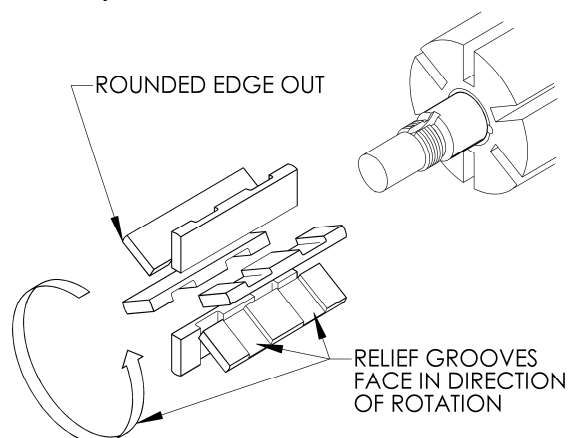
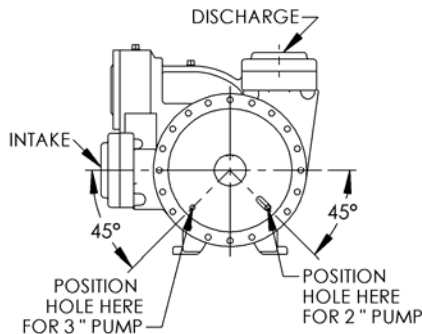

Figure 8 – Vane Installation
Figure 9 - Disc Relief Hole Location
3. Turn the shaft by hand until a vane (14) comes to the top (12 o'clock) position of the rotor. Remove the vane.
4. Install a new vane (14), ensuring that the rounded edge is UP, and the relief grooves are facing towards the direction of rotation. See Figure 8.
1. On 2-inch pump models, apply grease to the liner key groove in the pump casing to hold the key (74) in place during liner installation. Install key in groove before starting liner (41) into pump casing (12). On 3-inch pump models, install the liner key (74) in the groove on top of the liner (41).
2. Align the liner key (74) with the pump casing keyway and start the liner (41) into the casing (12) with the slots in the liner towards the **INTAKE** port, and the hole pattern in the liner towards the **DISCHARGE** port. Uniformly tap the outer edge of the liner with a rubber mallet to fully insert into the casing. **NOTE:** If the liner is installed backwards, it will restrict the port openings and cause cavitation, noise and loss of capacity.
3. Place the disc (71) against the liner (41) with the seal cavity outward and disc relief hole located as shown in Figure 9.
4. Without installing the head O-ring or mechanical seal components, temporarily attach the outboard head (20) and bearing (24) to the casing (12). Install and hand tighten two head capscrews (21), 180 degrees apart. This head will be used to hold and align the rotor and shaft (13) while the inboard side of the pump is assembled.
5. Remove the vanes (14) and push rods (77) from the rotor and shaft assembly (13). Inspect for wear and damage, and replace as follows:
- a. Partially install the non-driven end of the rotor and shaft (13) into the open side of the pump casing (12). On single-ended shafts, verify the rotation direction before proceeding.
- b. Leave part of the rotor outside of the casing (12) so that the bottom vanes (14) can be installed and held in place as the push rods (77) are installed in the push rod holes of the rotor. Insert the new vanes into the rotor slots with the rounded edges outward, and the vane relief grooves facing **TOWARDS** the direction of rotation. See Figure 8.
- c. After the bottom vanes and push rods are installed, insert the rotor and shaft (13) fully into the casing (12).
- d. Install the remaining vanes (14) into the top positions of the rotor.
6. Install the disc (71) on the inboard side of the pump with the seal cavity facing outward and the disc relief hole located as shown in Figure 9.